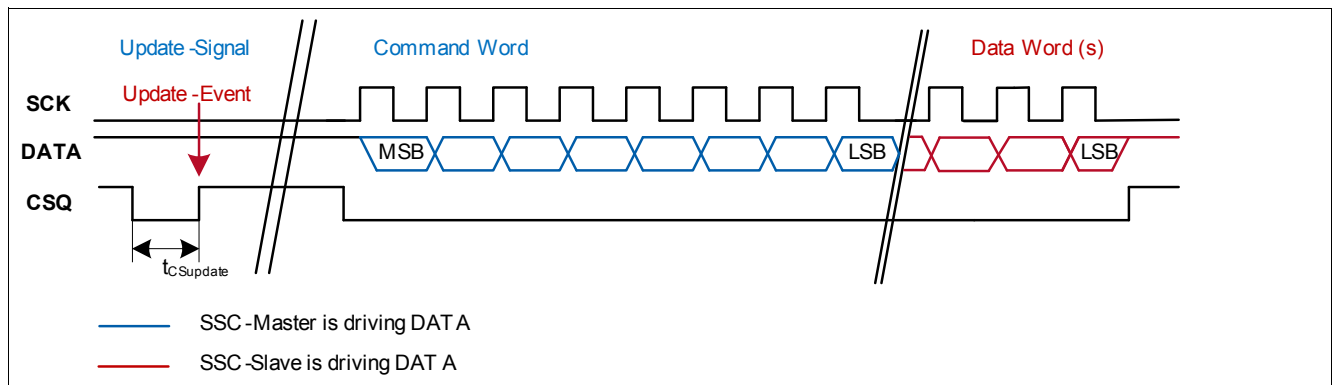

Figure 24 Update of update registers
- At a rising edge of CSQ without a preceding data transfer (no SCK pulse, see Figure 24), the content of all registers which have an update buffer is saved into the buffer. This procedure serves to take a snapshot of all relevant sensor parameters at a given time. The content of the update buffer can then be read by sending a read command for the desired register and setting the UPD bit of the Command Word to “1”.